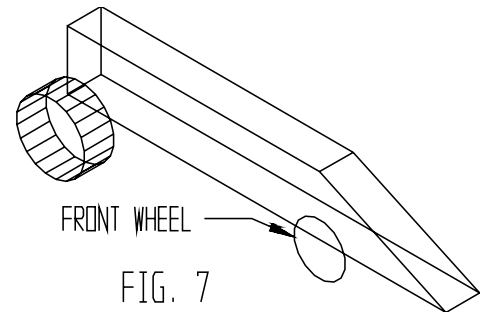

FIG. 7
Step 11. In the Isometric View, click on the **front wheel, Fig. 7** and press ENTER.